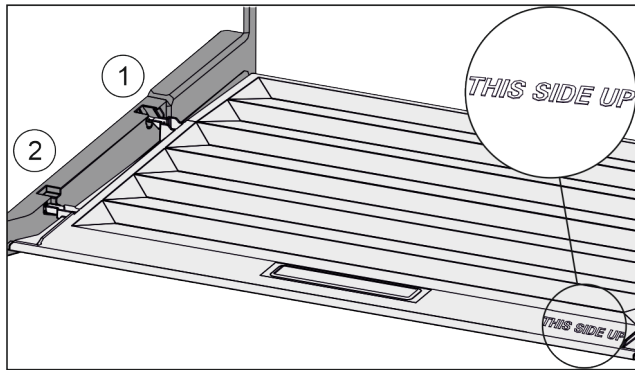

Fig. 34
- ▶ Insert the lip of the cover over the opening of the rear bracket Fig. 34 (1) and click into place Fig. 34 (2).